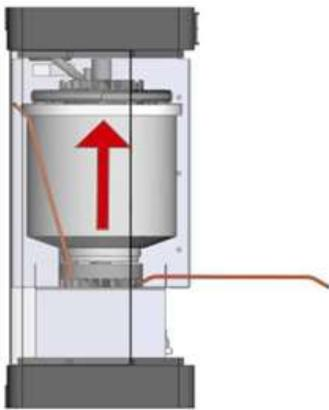
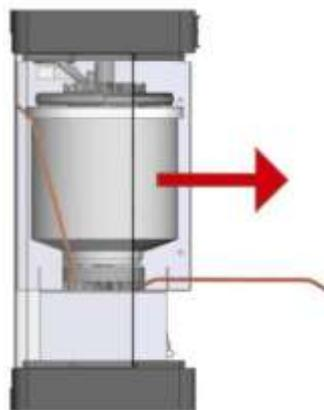

Fig. 31
Fig. 32
5. Remove the cylinder from the lower flange extracting it upwards (Fig. 31) and remove it from the humidifier (Fig. 32 and 33).